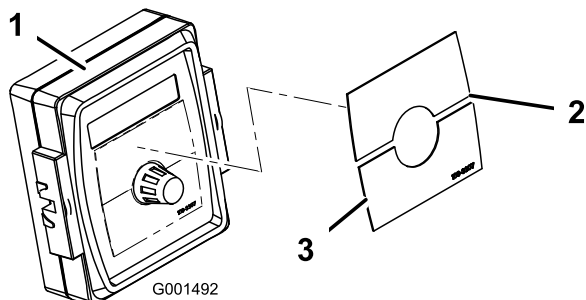

Figure 25
4. Install the Spray Pro Decal to the monitor (Figure 25).